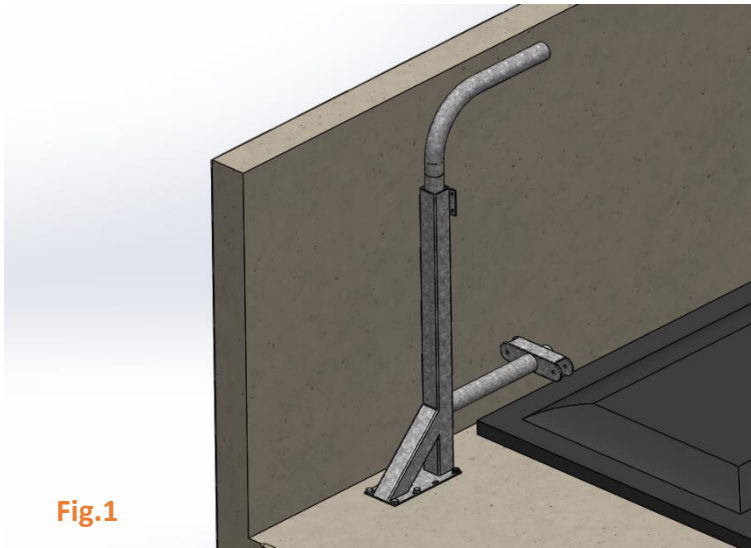

Fig.1
- The back of the side bar (at the bottom of the post) at 201cm* from the back of the stall. Fig.1